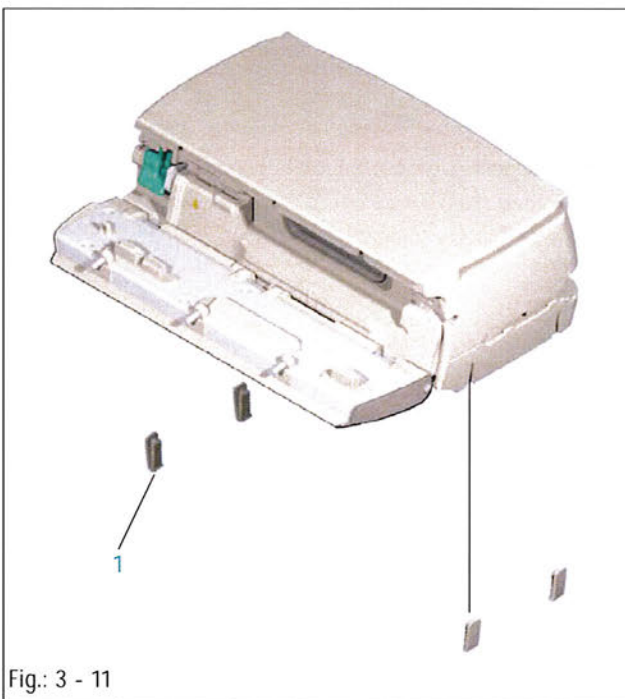

Fig.: 3 - 11
1. Pull the unit foot (Fig.: 3 - 11 / Item 1) out of the housing.
Legend to fig. 3 - 11: